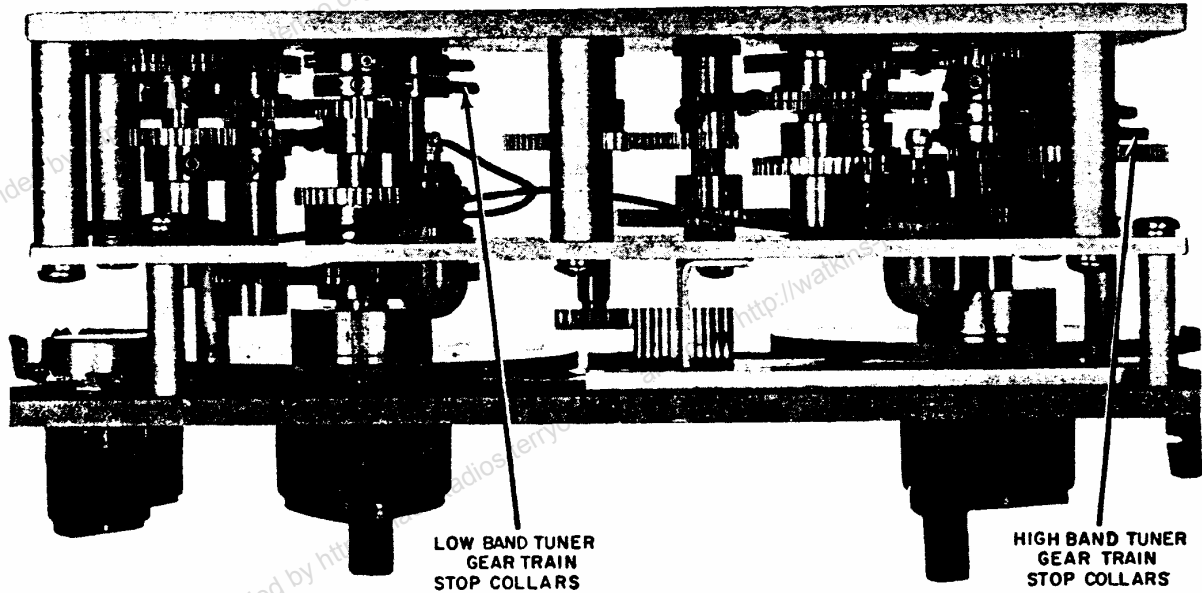

Figure 4-14. Gear Trains, High and Low Band Tuners
(1) Loosen both gear train stop collars (see fig. 4-14) on tuner being adjusted.
(2) Rotate dial to extreme high frequency end until dial is stopped by Inductuner stop. (Hairline should align with last mark on each dial, 269 mc and 67 mc. If not, loosen Inductuner coupling and set dial properly. Tighten set screws in Inductuner coupling when finished.)
(3) Back the dials off from Inductuner stop until dial reads 265 mc or 62 mc. Tighten set screws on stop collar which stops dial at high end of band.
(4) Rotate dial to low frequency end of band being adjusted and set stop collar which stops dial at low end of band so that dial travels approximately one division below last mark. (This completes the adjustment.)